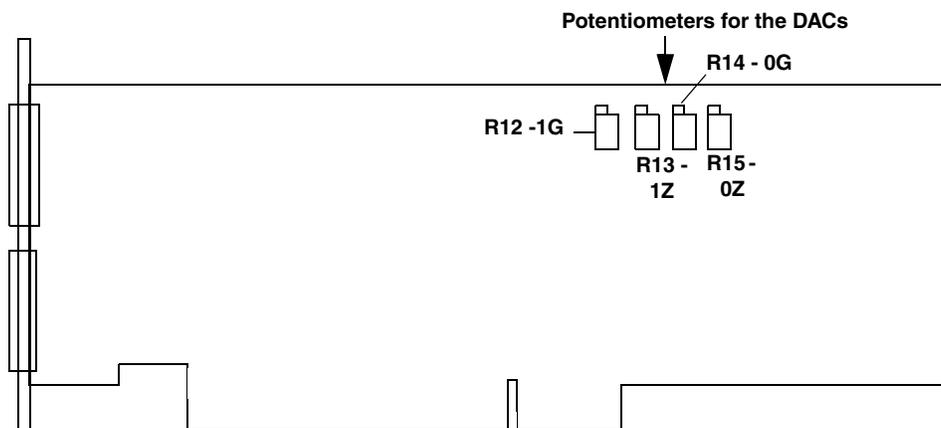

Figure 79: Location of Potentiometers R12 to R15 on the DT3016 Board
8. Physically adjust potentiometer R15 (labelled 0Z) on the DT3016 board until the display reads **-9.3750 V** (within 0.001 V). Figure 79 shows the location of this potentiometer.
10. Physically adjust potentiometer R14 (labelled 0G) on the DT3016 board until the display reads **+9.3750 V** (within 0.001 V). Figure 79 shows the location of this potentiometer.
13. Physically adjust potentiometer R13 (labelled 1Z) on the DT3016 board until the display reads **-9.3750 V** (within 0.001 V). Figure 79 shows the location of this potentiometer.
15. Physically adjust potentiometer R12 (labelled 1G) on the DT3016 board until the display reads **+9.3750 V** (within 0.001 V). Figure 79 shows the location of this potentiometer.